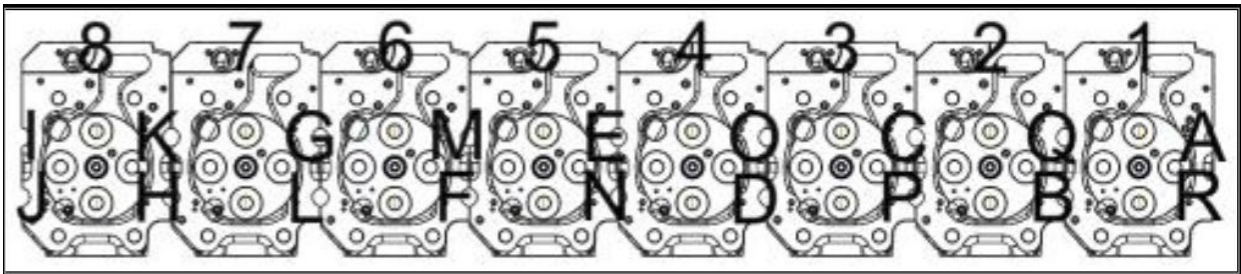

Figure 49.
2. Loosen the cylinder secondary bolts in the following order A-R. (Refer to Figure 49).